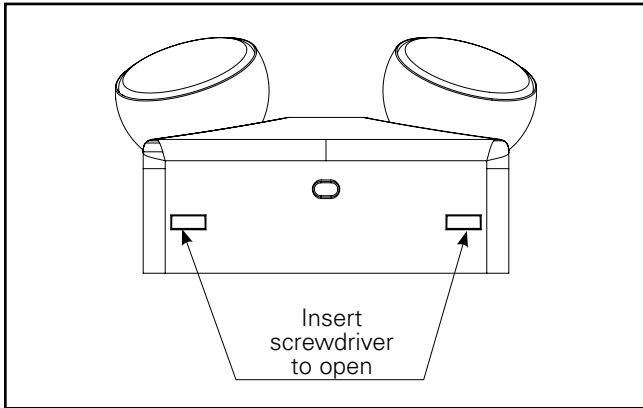

Figure 1.
2. Open the APELMINI by inserting a screwdriver at the two holes on the bottom of the unit. This will deflect the snap features to allow the unit to open. (See Figure 1)